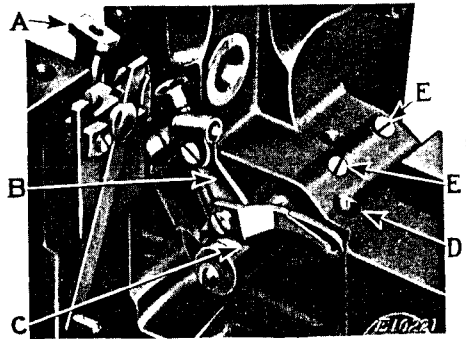
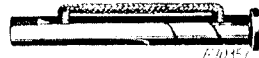

FIG. 15
FIG. 25
Wick 132552 is threaded in hinge stud 132569, as shown in Fig. 25.
Place the right hand lever connecting stud (B) with the beveled end downwardly, on the right hand looper lever, as shown, and enter the left hand looper lever connecting stud (C) into the hollow of stud (D). Then insert the hinge stud (Fig. 25) into the bearing (D) of the left hand looper lever and into the hole (E) of the casting, being careful to see that the oil wick in the hinge stud is central at the bottom to make contact with the primary wick (G, Fig. 6). Push the hinge stud (C, Fig. 15) in as far as possible and securely tighten the set screws (EE, Fig. 15) which position on the flat of the hinge stud.